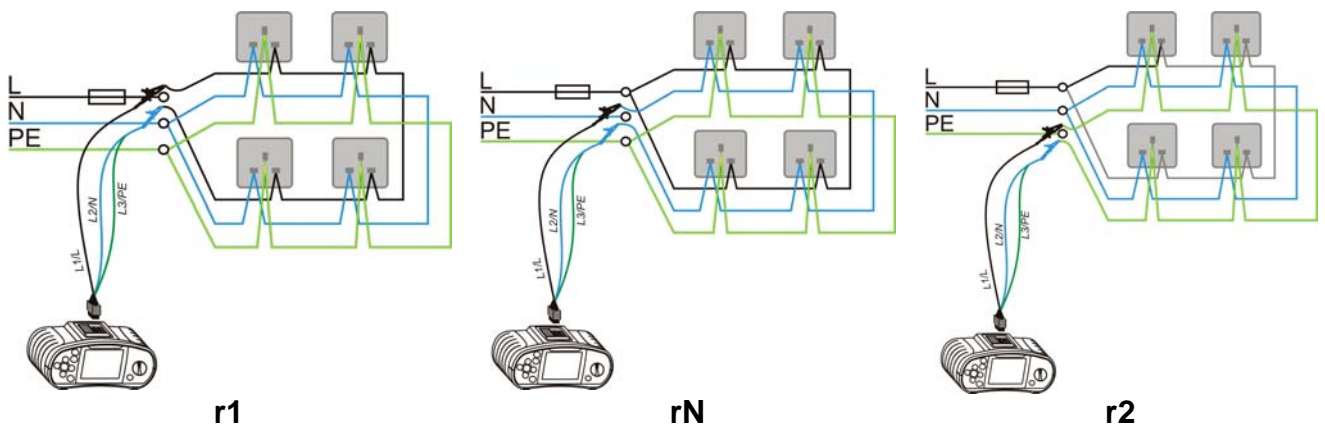

Figure 5.6: Connection for testing the r1, rN, and r2 sections of the wiring
Step 4 Ensure that the item for testing is disconnected from any voltage source. Connect the test cables to the item under test. Follow the connection diagrams shown in figures 5.6 and 5.8 to perform a Continuity measurement. Use the Help function if necessary.